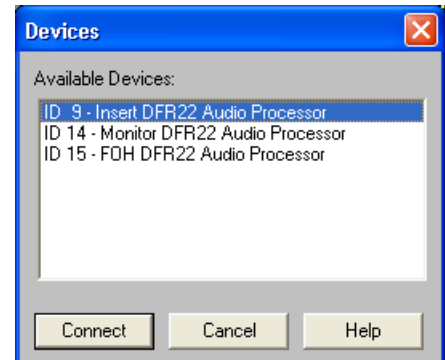

FIGURE 4-1: “Select Devices” Dialog
2. If the “Select Devices” dialog appears, as pictured in Figure 4-1, select a device from the list and click [Connect].